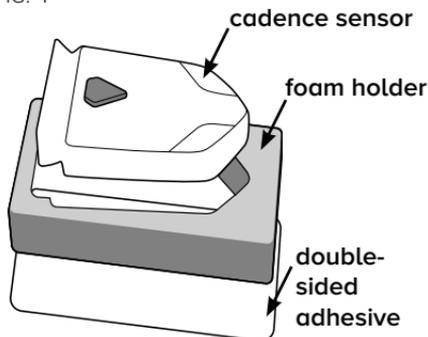

FIG. 5
- Place the cadence sensor inside the foam holder (Fig. 5).
4. Place the cadence sensor inside the foam holder, as shown in Fig. 5 on page 10.
5. Affix the strip of double stick adhesive to the underside of the cadence sensor and foam holder to cover the battery access cap (as shown in Fig. 5 on page 10).